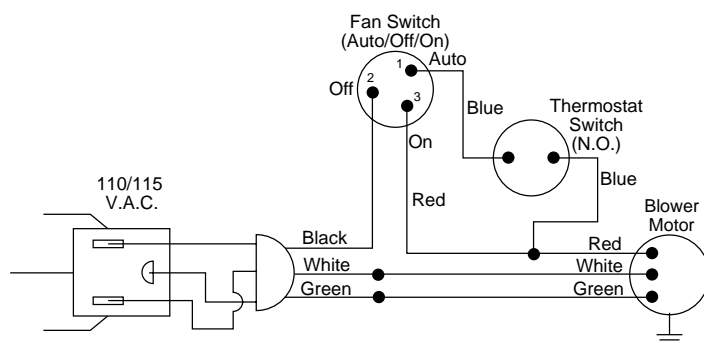

Figure 20 - Wiring Diagram For Blower Accessory Built-In Installation
4. A licensed electrician must follow the wiring diagram to connect incoming electrical supply to fan kit wiring harness (see Figure 20).